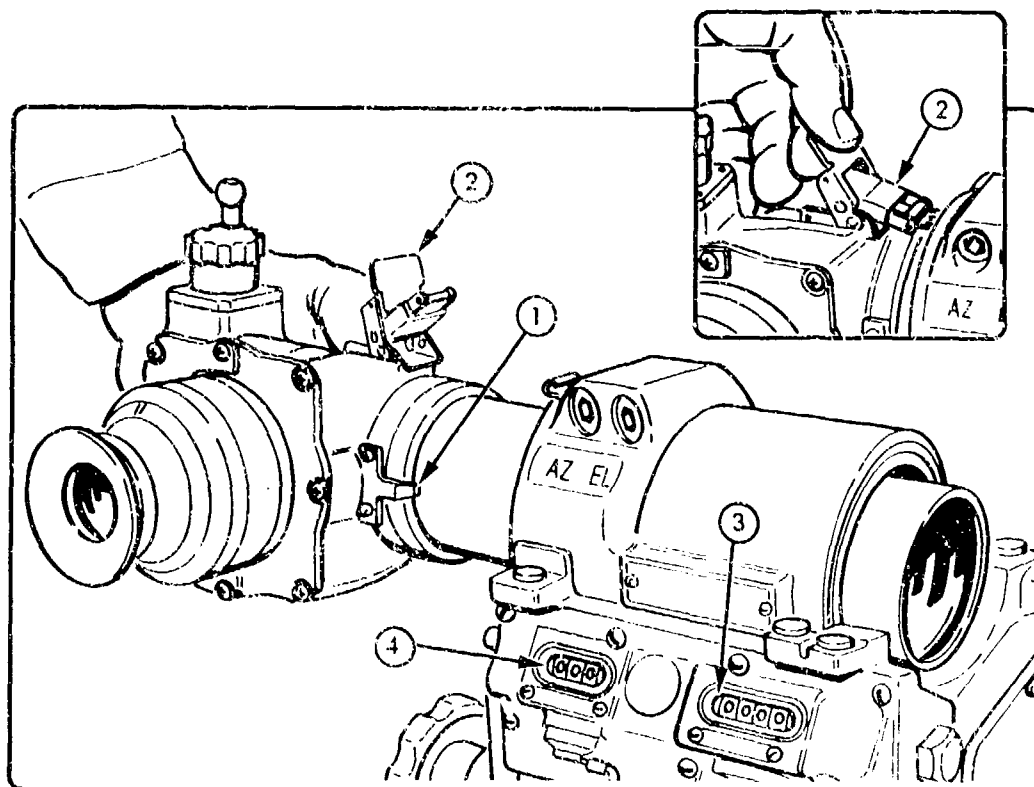
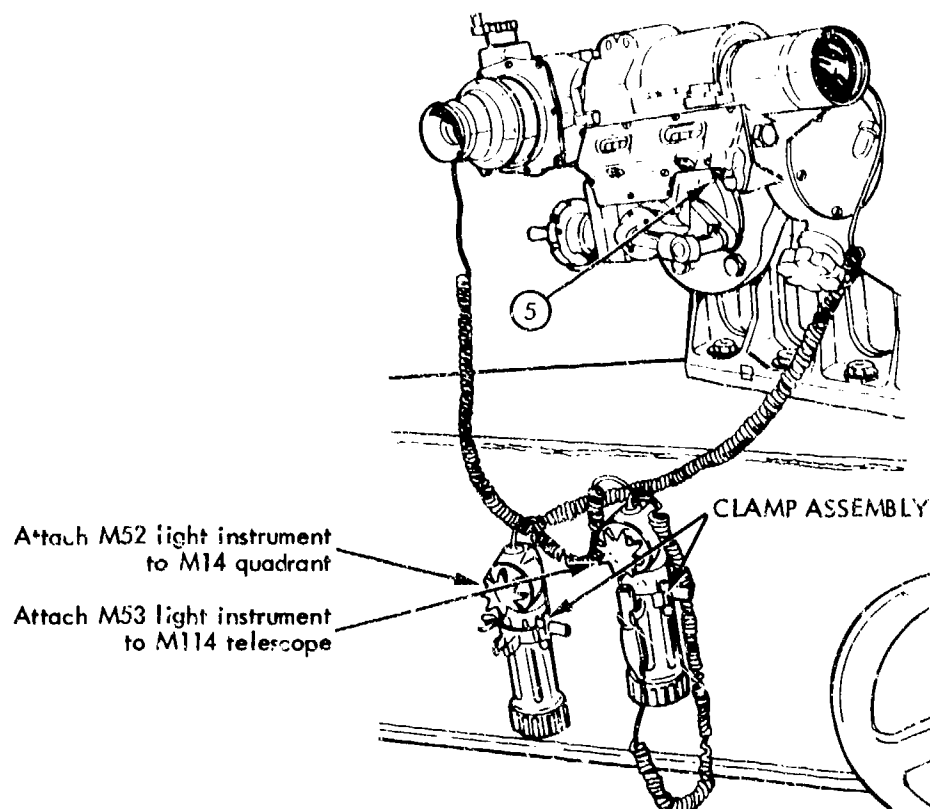

Figure 4-43. Installing the M114 elbow telescope.
Figure 4-44. Night lighting device emplacement for the M14/M114.
(3) *Lighting devices.* Emplacement of the lighting devices is shown in figure 4-44. A toggle switch located underneath the correction scale is used to turn the counter lights on and off.
*b. Installing M114 elbow telescope.* The M114 elbow telescope is installed by the assistant gunner as shown in figure 4-43 and described below.
(1) Remove the canvas cover from the M114 mount.
(2) Remove the elbow telescope from the stowage chest and insert it into the M14 fire control quadrant, making certain that the locating key ① engages in the slot.
(3) Fasten the latch ② as shown in the insert to figure 4-43.
(4) Perform required before-operation PMCS.
(5) Set the gunner's aid counter ③ to 0 and the elevation counter ④ to 300.
(6) Level the elevation quadrant.
(7) Make sure that the elbow telescope eyepiece is perpendicular to the weapon tube. The eyepiece can be rotated 3200 mils by releasing the latch ② and pulling the telescope to the keyway.
(8) If you have radioactively illuminated fire control instruments, be aware of the warning on the inside front cover of the user's manual.
(9) If you do not have radioactively illuminated fire control instruments, install the M52 and M53 lighting instruments as shown in figure 4-44.
(10) Adjust the rheostats as required for proper reticle illumination.
(11) The toggle switch (⑤ fig 4-44) controls the lights for the elevation and gunner's aid counters.